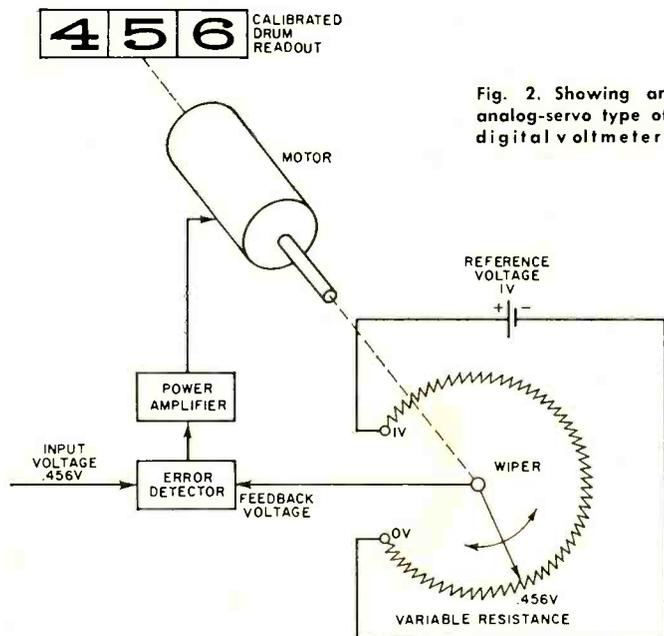

Fig. 2. Showing an analog-servo type of digital voltmeter.
**Analog-Servo Type.** This comparison-type instrument creates its feedback voltage by a motor-driven variable resistance (potentiometer). Its functional diagram (Fig. 2) resembles that of a servo system used for positioning an output shaft ("position servo"); that is, a balance detector compares the input and feedback voltages and issues commands which are amplified to energize the motor. The motor drives the variable resistance in the proper direction to make the feedback voltage equal to the input. When the feedback and input voltages are equal, the balance detector output voltage drops to zero and the motor stops. Voltage readout is in terms of motor-shaft position and is displayed by a calibrated drum or several numbered drums, each geared to the adjacent drum by a mechanical transmission having a ten-to-one drive ratio.